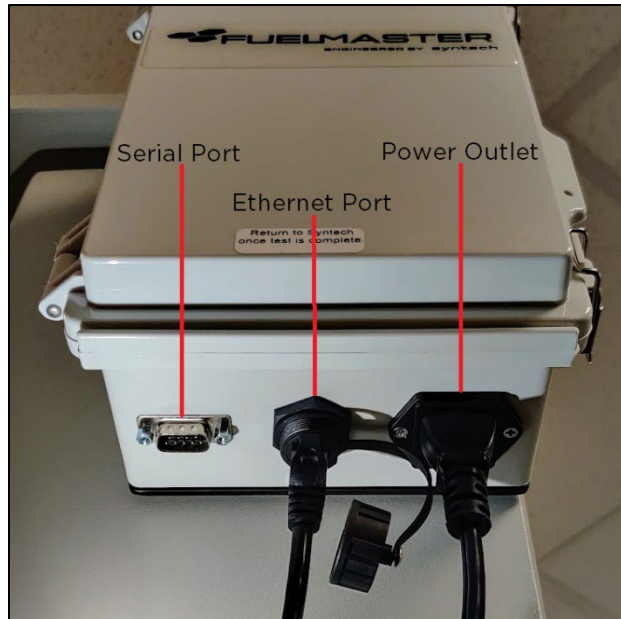

Figure 5 Connecting the Ethernet Cable
3. Connect the provided Ethernet cable into the port on the MDU (Figure 5).